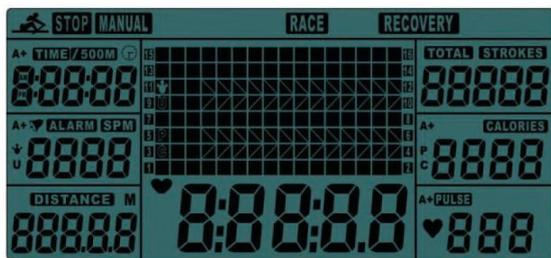

Fig. 3
2. CLOCK is displayed. Press UP to adjust to the hours. Confirm by pressing ENTER. Press UP to adjust the minutes. Confirm by pressing ENTER. Use the same procedure to adjust the year (in the Strokes display), month (in the Calorie display) and day (in the Pulse display) using the UP/DOWN buttons to adjust the values and the ENTER button to confirm. Afterwards ALARM is displayed. To skip setting an alarm press the ENTER button. To set an alarm press UP. An arrow is now shown next to ALARM. Press ENTER. The CLOCK display is now active. Set an alarm time using the UP/DOWN buttons. Confirm by pressing ENTER. The computer switches to the SPORT display (Fig. 3).